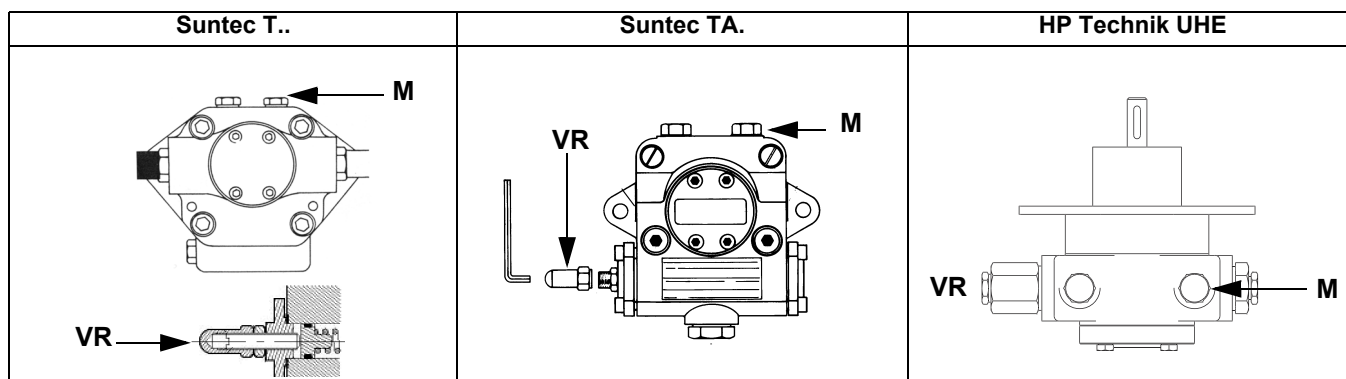
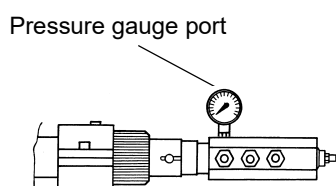

Fig. 5
Fig. 6
- 3 bleed the air from the **M** pressure gauge port (Fig. 5) by loosening the cap without removing it, then release the contactor.
- 5 Only if necessary, adjust the supply pressure as follows (see related paragraph); insert a pressure gauge into the port shown on Fig. 6 and act on the pump adjusting screw **VR** (see Fig. 5) as to get the nozzle pressure at 20bar (Monarch or Fluidics nozzles - see page 36-38).
3. Screw VD on with 2 M5 screws for each, max. 5 Nm/44 in.-lb., fig. 5/6.